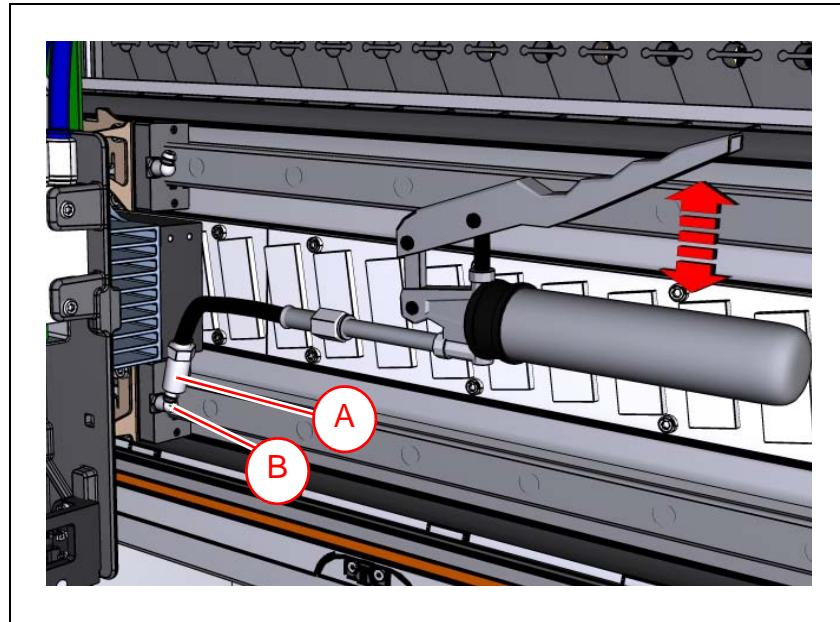

Figure 16-42. Attach the grease gun dispensing nozzle.
5. Attach the grease gun dispensing nozzle ('A' in Figure 16-42) onto the X-wagon guide block grease fitting ('B'). Pump three times while slowly moving the X wagon by hand.